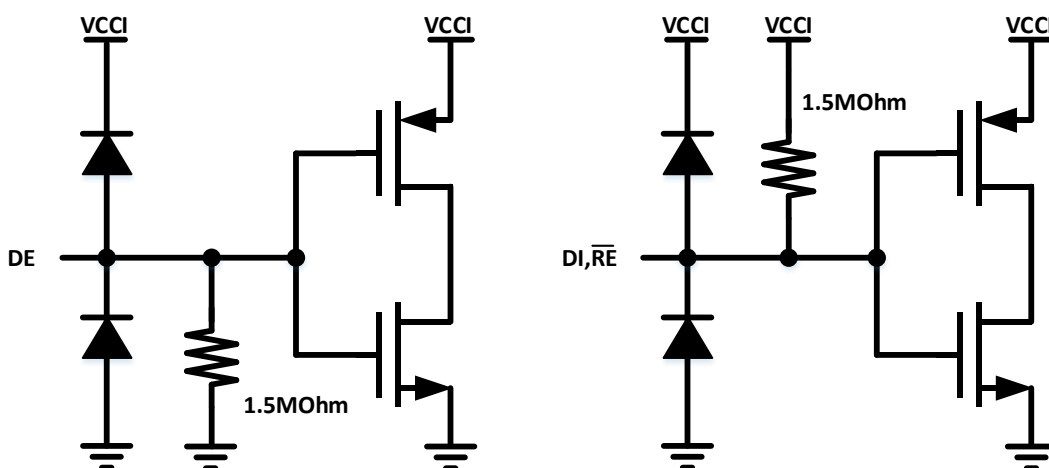

Figure 9-1. Input equivalent circuit
The CA-IS2092x devices include three logic inputs on the logic side: receiver enable, driver enable and driver digital input. The driver enable control DE pin has an internal weak pull-down to GNDA, while the digital input DI and receiver enable pins have an internal pull-up to  $V_{CC}/V_{CCL}$ , see Figure 9-1 the input equivalent circuit.
The transmitter converts a single-ended input signal (DI) from the local controller to differential outputs on the bus lines A and B. The truth table for the transmitter is provided in Table 9-2, the driver enable control DE pin has an internal weak pull-down to GNDA, see Figure 9-1 the input equivalent circuit; while the digital input DI pin has an internal pull-up to  $V_{CC}$  for CA-IS2092W or  $V_{CCL}$  for CA-IS2092VW. The driver outputs and receiver inputs on the bus side are protected from  $\pm 20kV$  electrostatic discharge (ESD) to GNDB, as specified by the Human Body Model (HBM). The driver outputs also feature short-circuit protection and thermal shutdown.